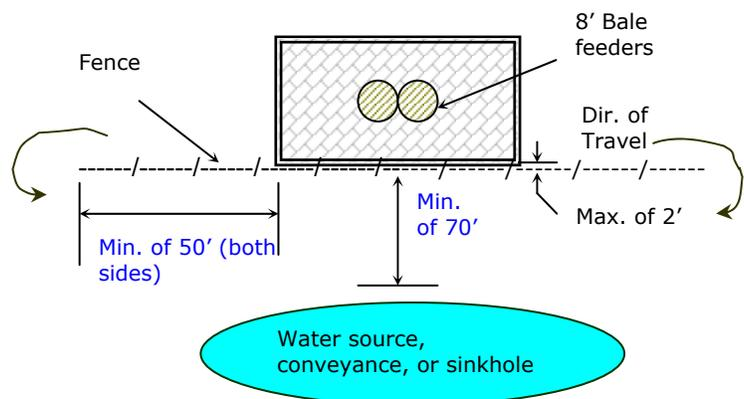

Figure 1 – Plan View of HUA Feeding Area
HUA feeding areas located on points or ridges where the immediate down slope away from the HUA is greater than 10 percent need to be fenced to prevent animal access to the down slope, particularly on fragipan or shaley soils. The fence must direct animal traffic across the slope to the extent practical. The fence should not end in natural drains or where a potential exist for gully erosion as a result of animal trailing. Ideally, the fence is located within 2 feet of the HUA. See Figure 1 below.
2. A fence constructed in such a way that livestock must travel a minimum of 50 feet from the edge of the HUA across the slope before being able to turn down the slope to the sensitive area(s) (see Figure 1). The fence must be located within 2 feet of the HUA and no closer than 70 feet from the sensitive area. The area below the fence is maintained in permanent vegetation. The fence is installed in accordance with NRCS Conservation Practice Standard *Fence (Code 382)*.